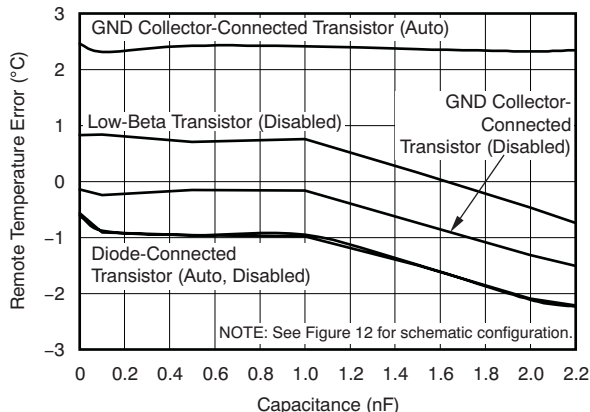

Figure 9.
The TMP435 can tolerate differential input capacitance of up to 2200pF with minimal change in temperature error. The effect of capacitance on sensed remote temperature error is illustrated in Figure 9 and Figure 10, Remote Temperature Error vs Differential Capacitance. See the Filtering section for suggested component values where filtering unwanted coupled signals is needed.
- (1) Diode-connected configuration provides better settling time. Transistor-connected configuration provides better series resistance cancellation.
- (2) R_S (optional) should be $< 1\text{k}\Omega$ in most applications. Selection of R_S depends on specific application; see Filtering section.
- (3) C_{DIFF} (optional) should be $< 2200\text{pF}$ in most applications. Selection of C_{DIFF} depends on specific application; see Filtering section and Figure 9, Remote Temperature Error vs Differential Capacitance.